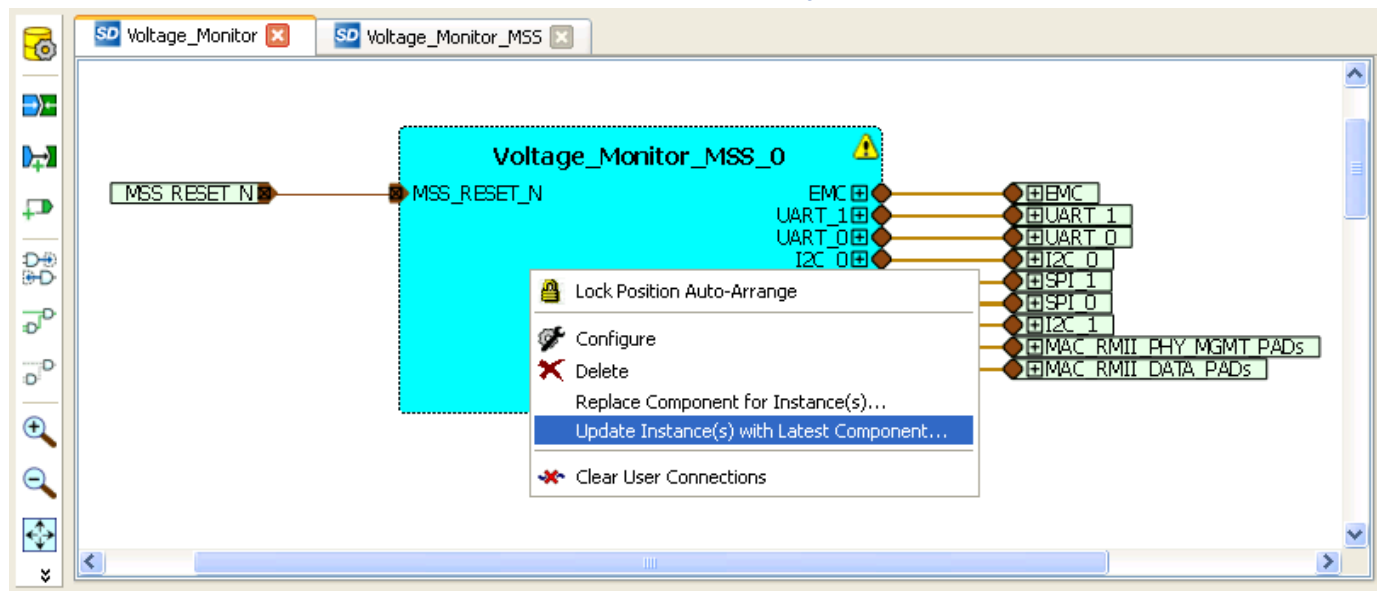

Figure 19 · Updating the MSS
1. Right-click on **Voltage\_Monitor\_MSS\_0** component on the **Voltage\_Monitor** tab and select **Update Instance(s) with Latest Component** as shown in Figure 19 . .